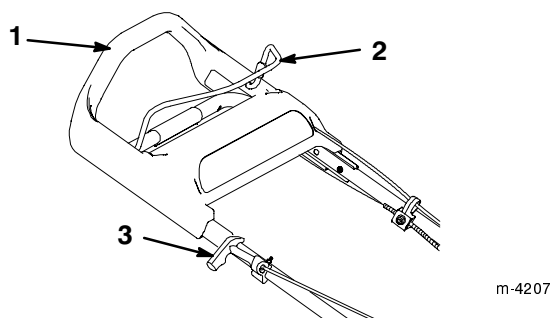

Figure 9
The starter handle and the blade control bail are on the upper handle as shown in Figure 9.
3. Hold the blade control bail against the upper handle (Fig. 9).
- **Manual Starting**—Pull the starter handle lightly until you feel resistance, then pull it sharply (Fig. 9). Allow the rope to return to the handle slowly.